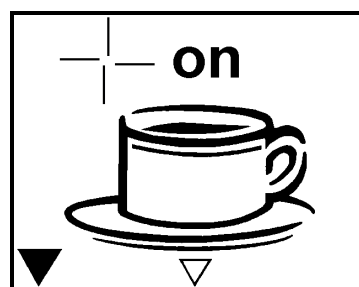

Fig. 10
1. Select program "switching mixer on or off". Figure 10 appears in the display.
3. Press the right-hand side of the setting key ← (13) to switch the mixer on, see fig. 10.